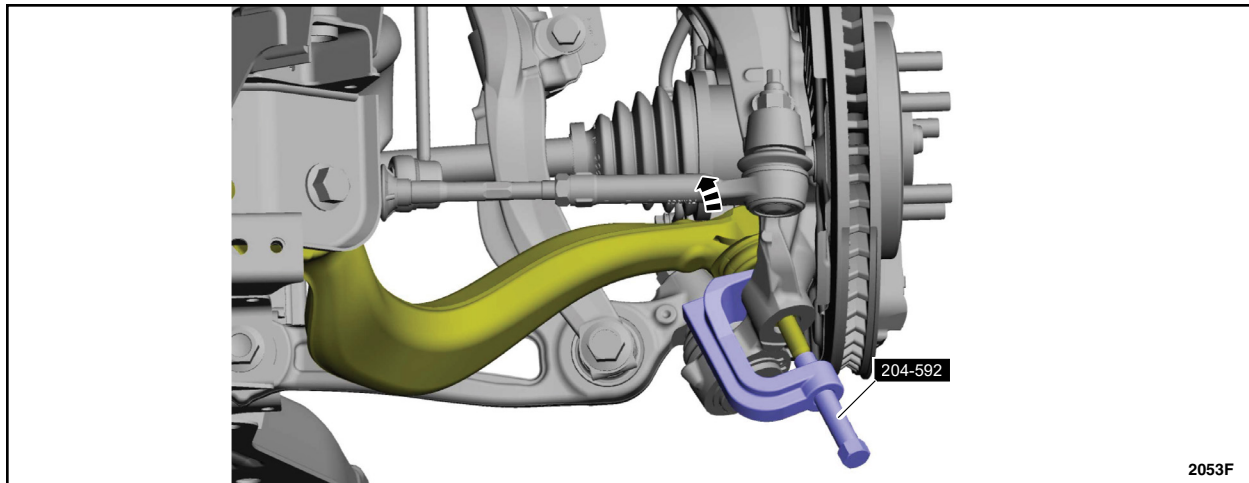

FIGURE 6
11. Separate the front lower arm from the wheel Knuckle. See Figure 6.